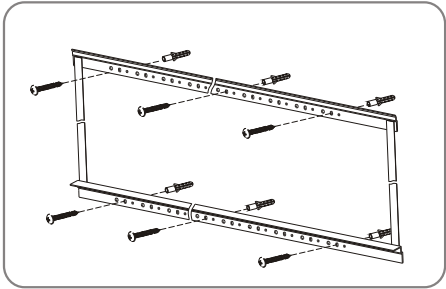

figure 12
- b. Concrete wall installation: drill six proper holes on the concrete wall with electric drill, then fix the top and low bracket on the wall using the $\phi 5 \times 40 \text{mm}$ tapping screw and then fasten with the anchor (3 screws on each bracket) (figure 12).